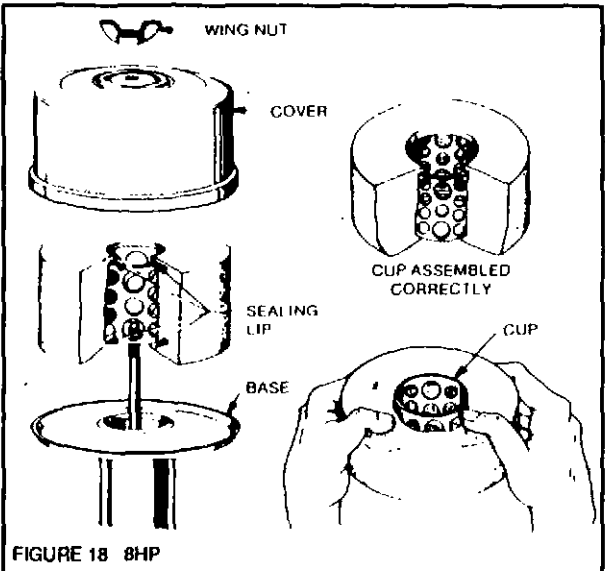

FIGURE 18 8HP
1. Remove wing nuts and cover. (Fig. 18)